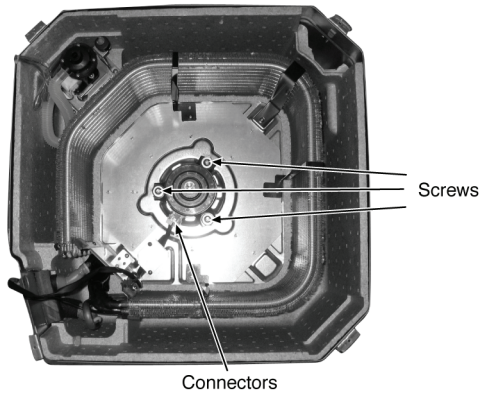

Fig. 8
8. Remove the Fan Motor by release the Fan Motor lead wire connectors and Fan Motor screws (Fig. 8).